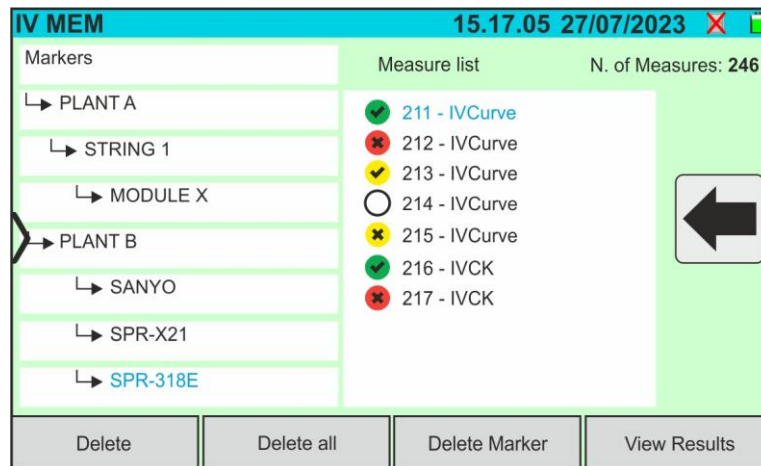

Fig. 72: Displaying results
4. Select a measurement by highlighting it in blue and tap on the "View Results" key to display it. In the case of Fig. 72, the following screen is displayed relative to the I-V curve measurement:
1. Tap on the **"Memory"** icon on the main menu to display the data (see Fig. 72)